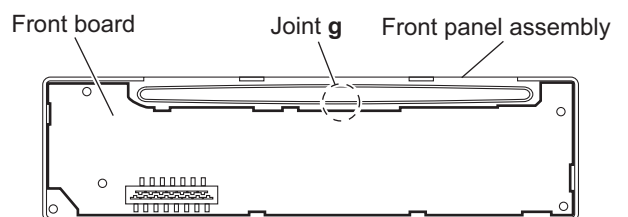

Fig.10
- (3) Release the joint **g** and take out the front board from the front panel assembly. (See Fig.10)
### 3.2.5 Removing the clamper assembly (See Figs.10 and 11)